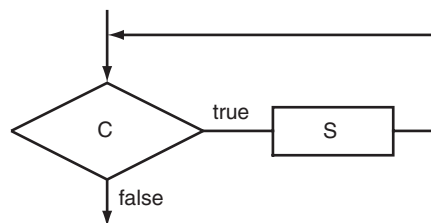

Figure 2.7 ■ The **While ... Do** looping construct
3. **While C Do S.** In this looping construct, the condition C is tested at the start of the loop. If the condition C is true, then the statement S will be executed. Otherwise, the statement S will not be executed. The **While C Do S** looping construct is illustrated in Figure 2.7. The implementation of a **while loop** consists of four steps: